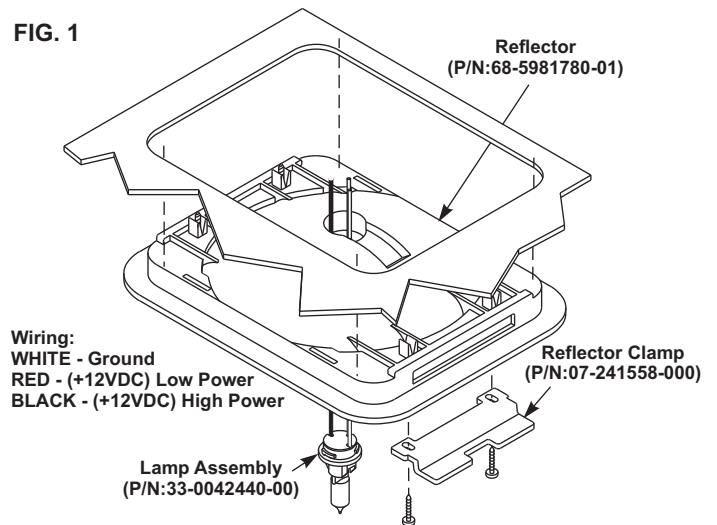

FIG. 2
6. Hold the reflector/lamp unit firmly against the mounting surface and insert a reflector clamp through the reflector (Fig. 2).